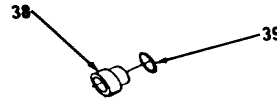
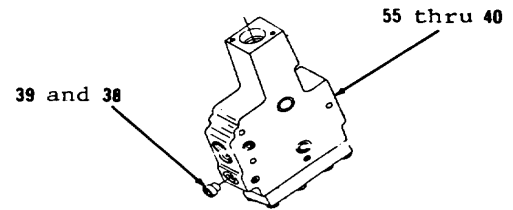

Figure 10-90.
Figure 10-91.
10. Install new preformed packing (39) on seat (38, Figure 10-90).
11. Lubricate outer diameter of preformed packing (39) lightly with clean oil. Screen in seat must be clean before installing.
12. Install items 39 and 38 as an assembly (Figure 10-91). Tighten to 12 ft-lb torque.